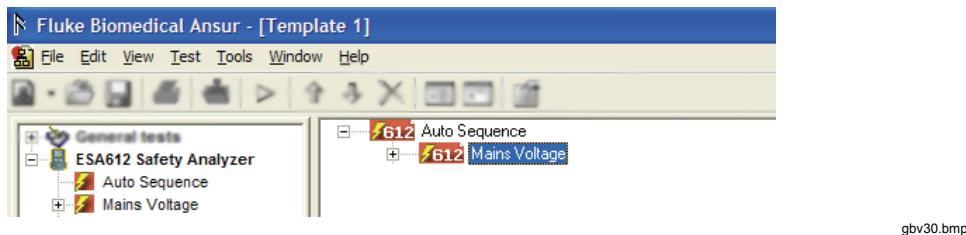

Figure 3-21. Adding Electrical Safety Tests to the Auto Sequence
4. To add tests to the Auto Sequence, click and hold on the desired test in the Test Explorer window and drag it to directly over the Auto Sequence entry in the Template Window and release it. The Mains Voltage test is added to the Auto Sequence shown in Figure 3-21.